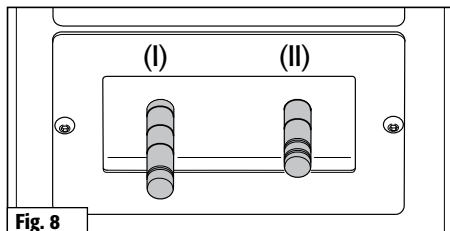

Fig. 8
Open primary air completely.	Pull primary air slider (I) all the way out (fig. 8)
Adjust secondary air.	Set secondary air slider (II) to position 2. (fig. 8)